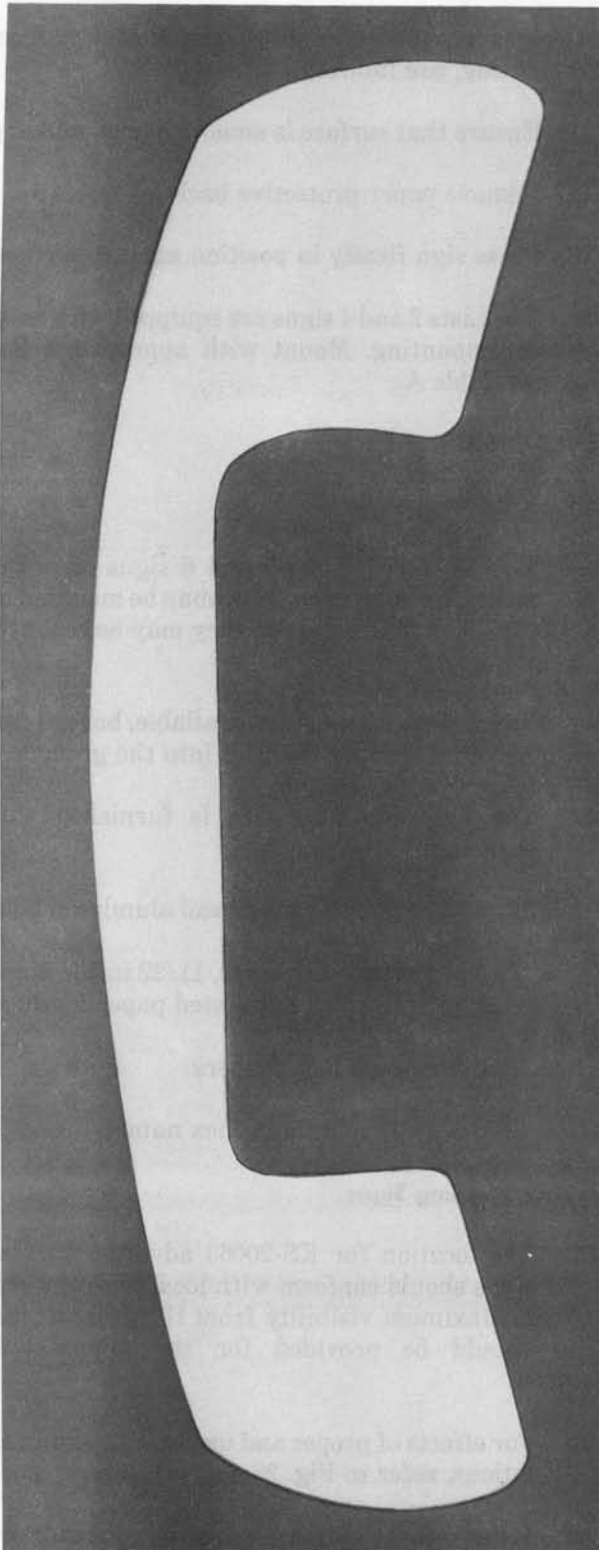

Fig. 21—KS-21823, List 1 Sign
2.13 Two signs are available (Fig. 21 and 22).